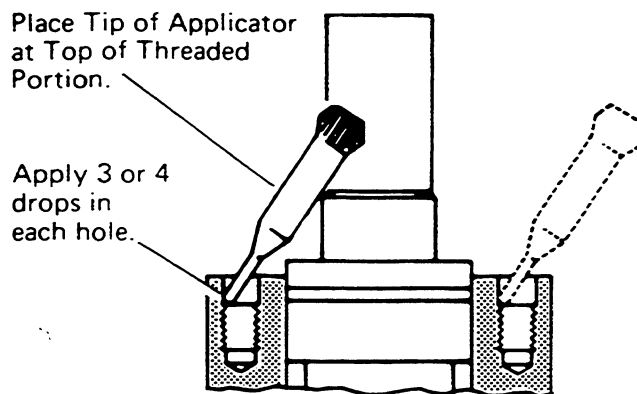

Figure 12
**24** Apply 3 or 4 drops of Loctite sealant at top of thread for each of four holes in housing. See Figure 12. Do not allow parts with Loctite applied to come in contact with any metal parts other than those for assembly. Wipe off excess Loctite from housing face, using a non-petroleum base solvent.